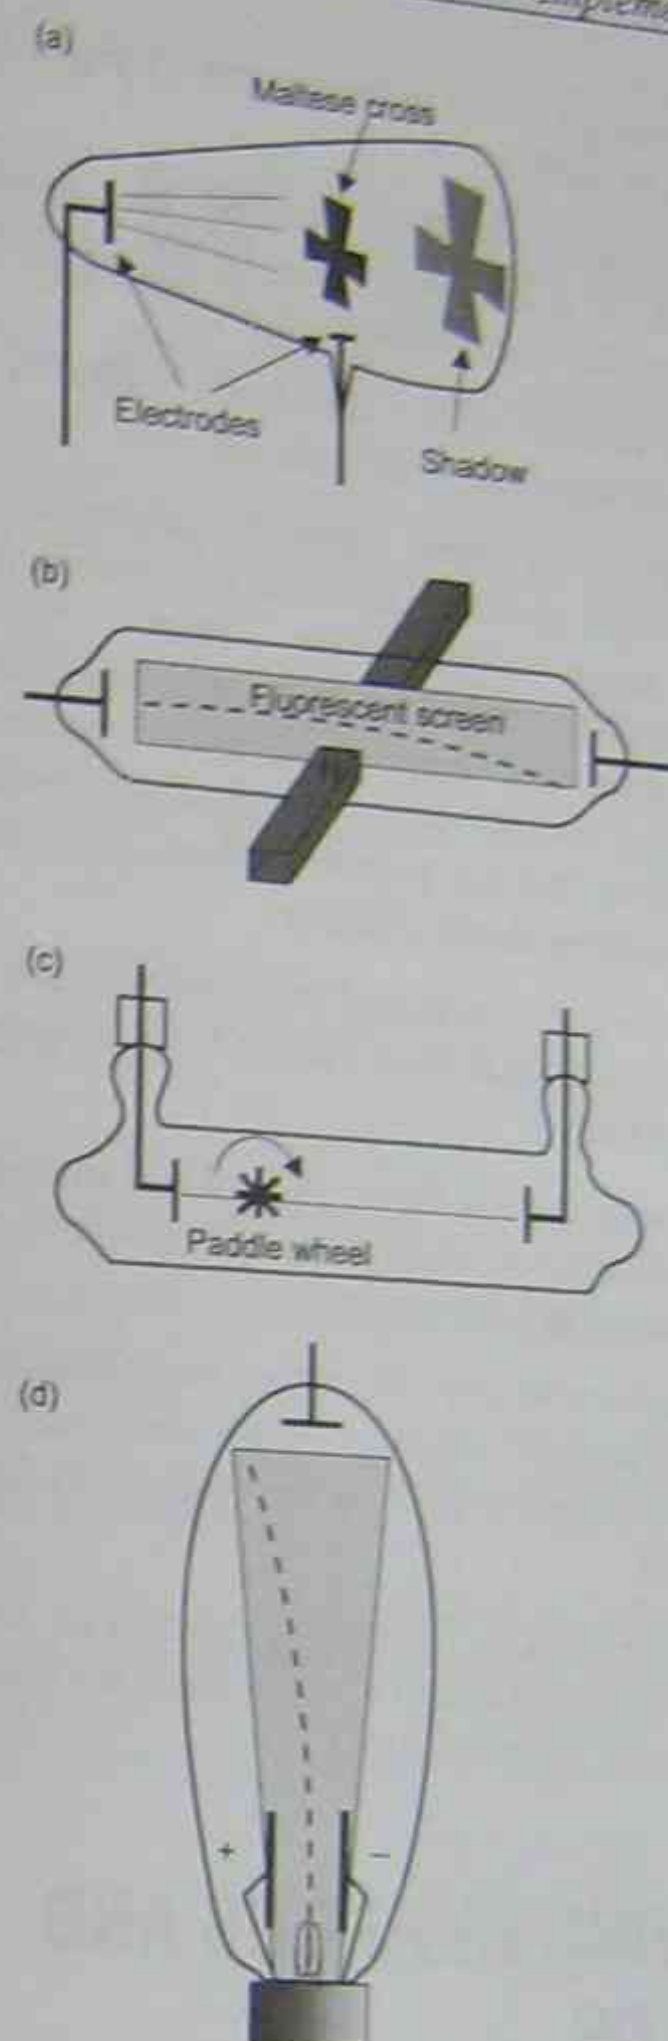

Figure 3.4 Cathode ray tube experiments
- 2 emanate from the cathode and travel in straight lines towards the anode (as demonstrated in the *Maltese Cross* experiment (Figure 3.4(a));
- 4 are deflected by magnetic fields (as demonstrated by holding a magnet close by as in Figure 3.4(b));
- 5 carry energy and momentum (as demonstrated in the *paddle wheel experiment*, see Figure 3.4(c)) which suggested a particle nature; and
(We can now easily demonstrate they are deflected by electric fields proving their negative charge as in Figure 3.4(d).)